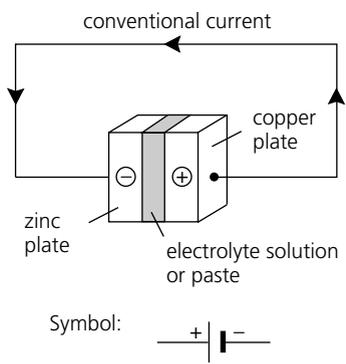

Figure 22.6
Figure 22.6(a) illustrates this I, t relationship graphically. If the magnitude of the rate of flow of charge changes without the direction of flow changing in a circuit, then the instantaneous electric current can be found from the slope of the I, t graph as in Figure 22.6(b). An electric generator device involving rotating coils of wire in a magnetic field (refer to Chapter 26) will produce electric currents that vary in both magnitude and direction many times per second. This oscillating type of current flow in a conductor is called **alternating current** (AC) and is represented graphically in Figure 22.6(c). Industrial and household electricity is distributed via this type of current flow. (Refer to Sections 22.6 and 22.7.)